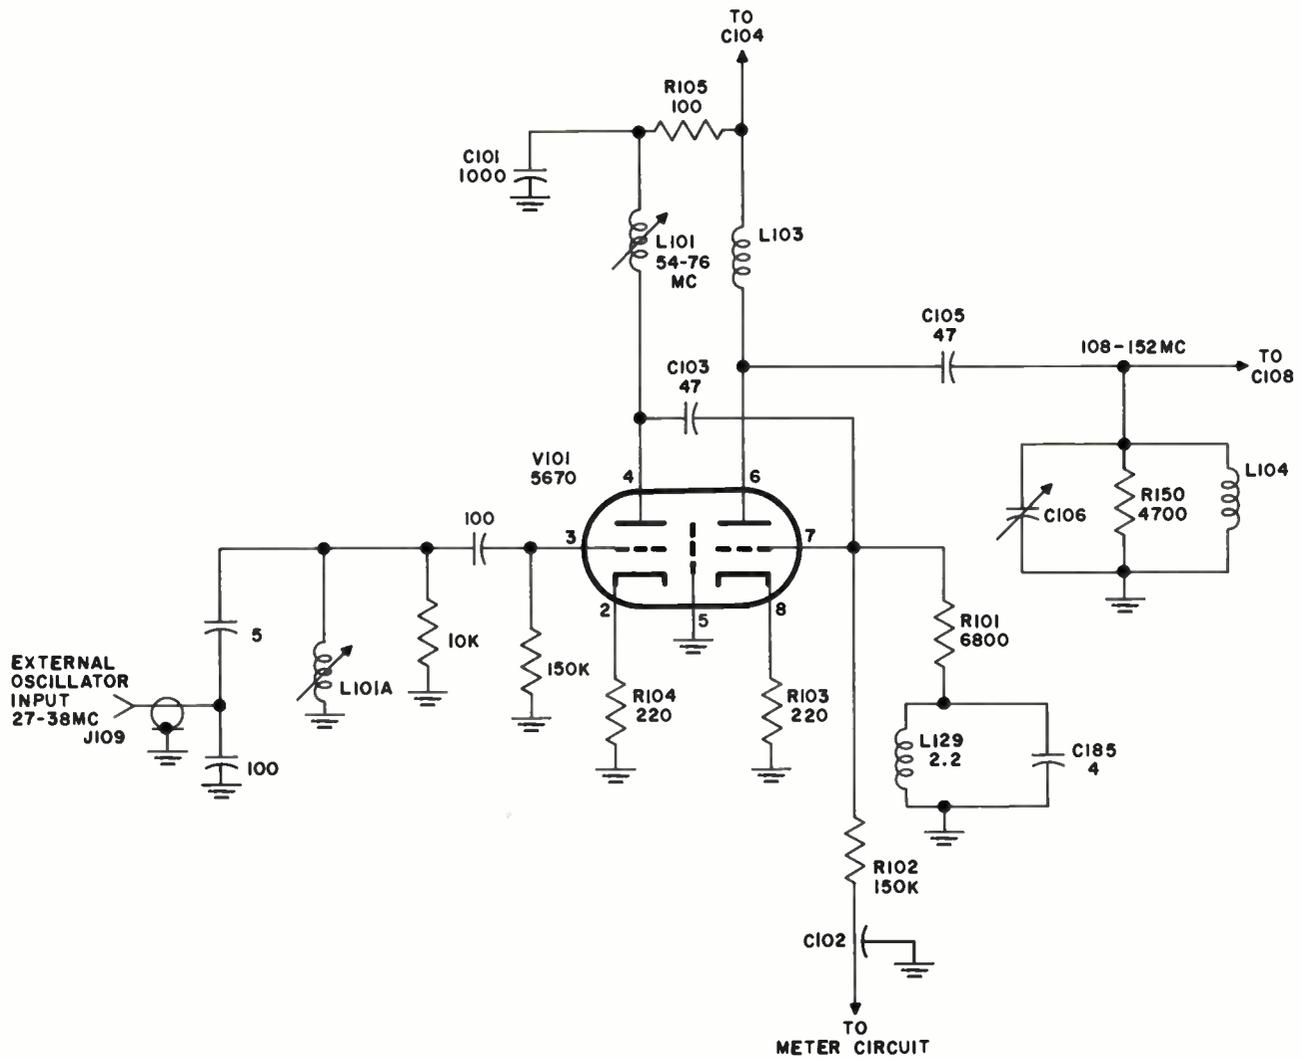

Figure 4-12. External Oscillator Modification
4.3.5 TRANSMITTER 242F-5CL, EXTERNAL OSCILLATOR TYPE CIRCUITS. (Refer to figure 4-12.)